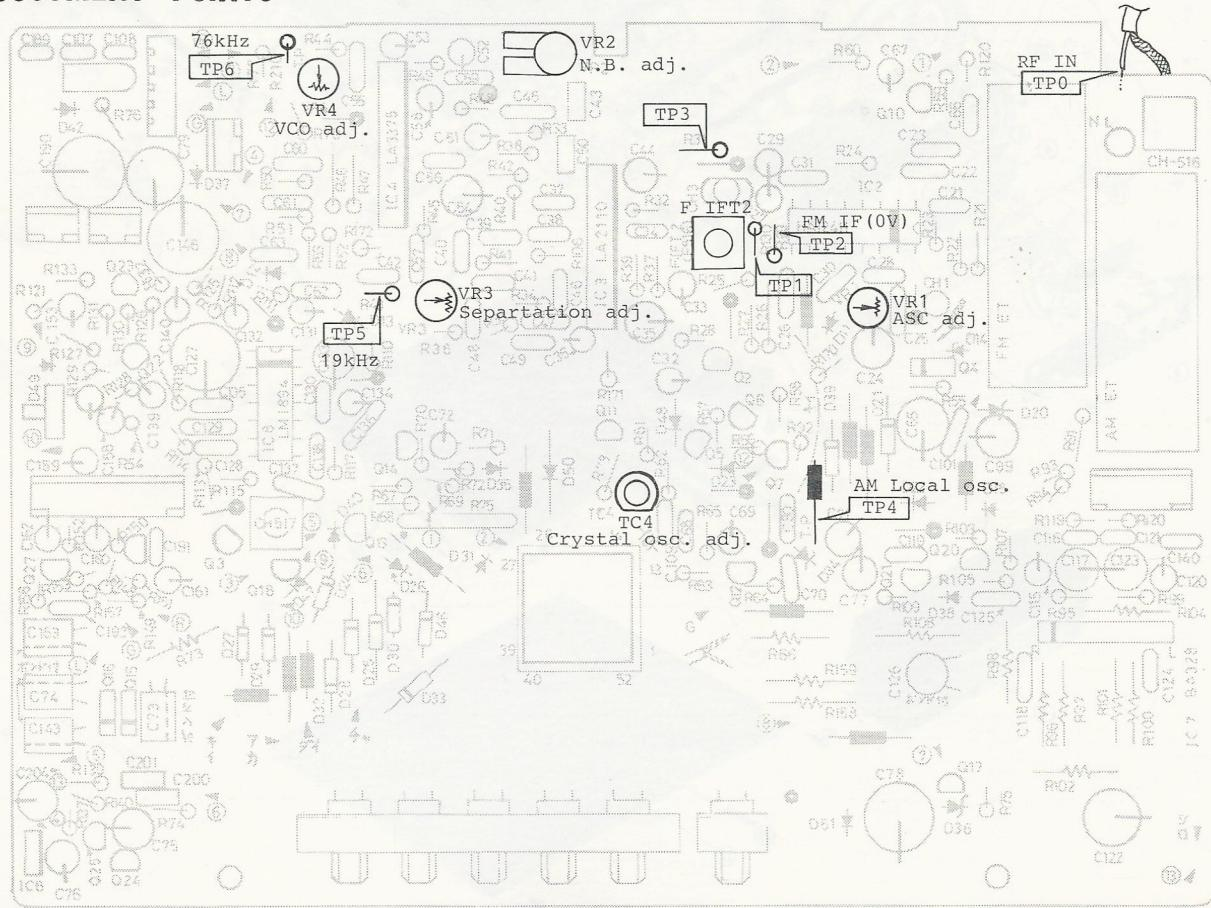

Fig. 12 (C33190231)
(2) Alignment (Refer to Fig. 12)
(1) Connections
- (1) Connections a. Stereo signal generator.....Connect the [TP 0]
- (1) Connections a. Frequency counter (Resolution : 1 Hz).....Connect the [TP 4]